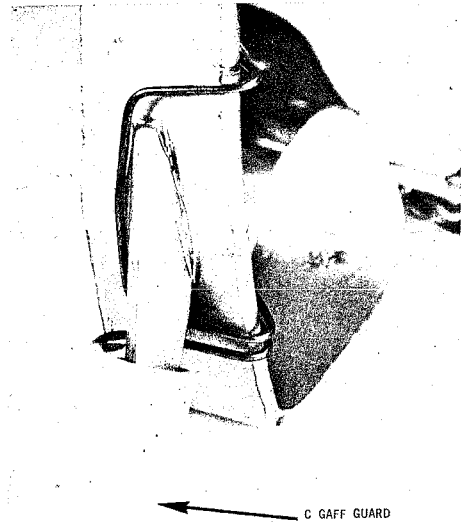

Fig. 7 — C Gaff Guard Installed
2.07 Gaff guards are used to protect gaffs and workmen when climbers are not being used. They also protect other tools from damage that are stored in vicinity of climbers. Fig. 7 illustrates a gaff guard installed.